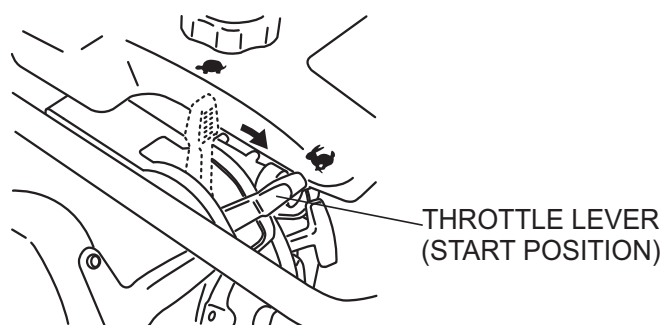

Figure 8. Throttle Lever (Start Position)
1. To start the rammer tamping action, move the throttle lever (Figure 8) **quickly** from **IDLE** to the **START** (🔌) position. **DO NOT** move the throttle lever slowly as this may cause damage to the clutch or spring.